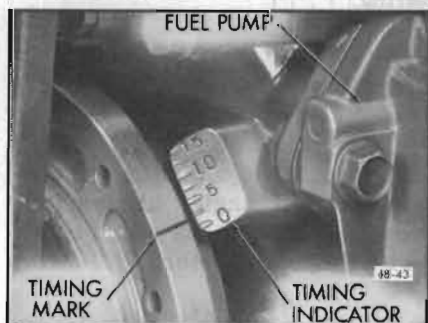

Figure 68-40—Ignition Timing Mark & Indicator
grees, "10" degrees and "15" degrees before U.D.C. See Figure 68-40.
1. With No. 1 spark plug removed and with hole plugged, rotate crankshaft in a forward direction using a suitable wrench on the harmonic balancer to crankshaft bolt. When plug blows from No. 1 cylinder, continue rotation until timing mark on balancer is aligned with proper mark on timing indicator. See Figure 68-40. No. 1 cylinder is now in position to fire.